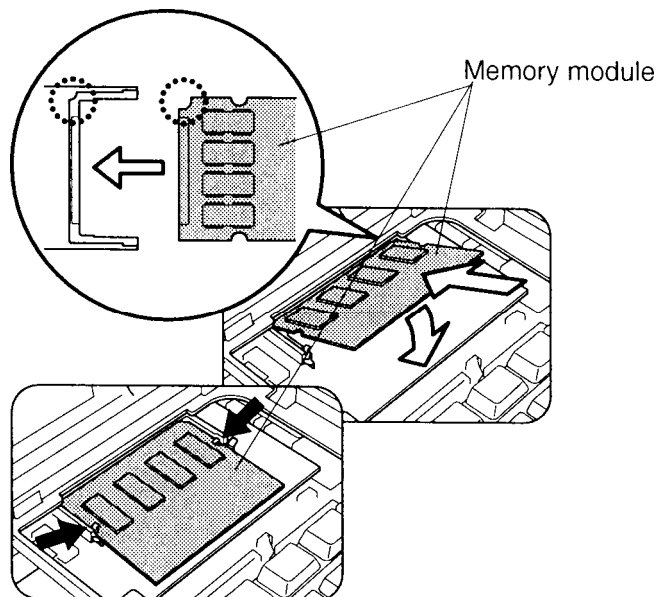

Figure 4-9 Inserting the memory module
1. Insert the memory module at about a 45° angle, connectors first, into the computer's connectors. Note the notch at the corner of the module. This notch should be on the right as you insert the module (figure 4-9).